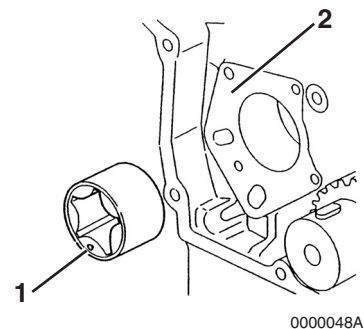

Figure 9-21
2. Reinstall the outer rotor in the gear case housing. The punch mark (**Figure 9-21, (1)**) on the end of the outer rotor must face away from the gear case housing (**Figure 9-21, (2)**).